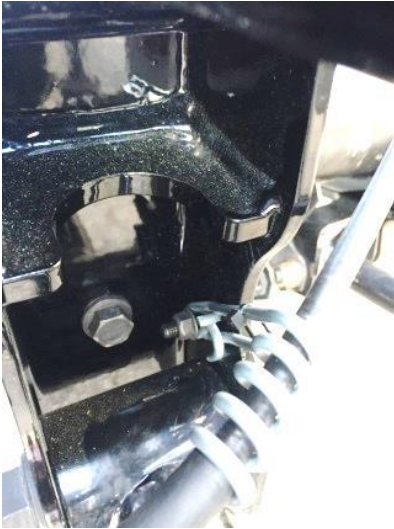

Figure 14. Re-Locate bracket to Axle Seat
4. Place the Axle Cradle under the axle tube and loosely attach to the Axle Seat using the (1) 1/2 -13 x 3.25 Hex Flange Bolt, (1) 1/2-13 x 3.75 Hex Flange Bolt, and (1) 1/2-13 Locking Flange Nut at the rear and front connection points.
7. Remove E-Brake bracket attached to the shock mount and relocate it on the Axle Seat using the 5/16" hardware as shown in Figure 14.